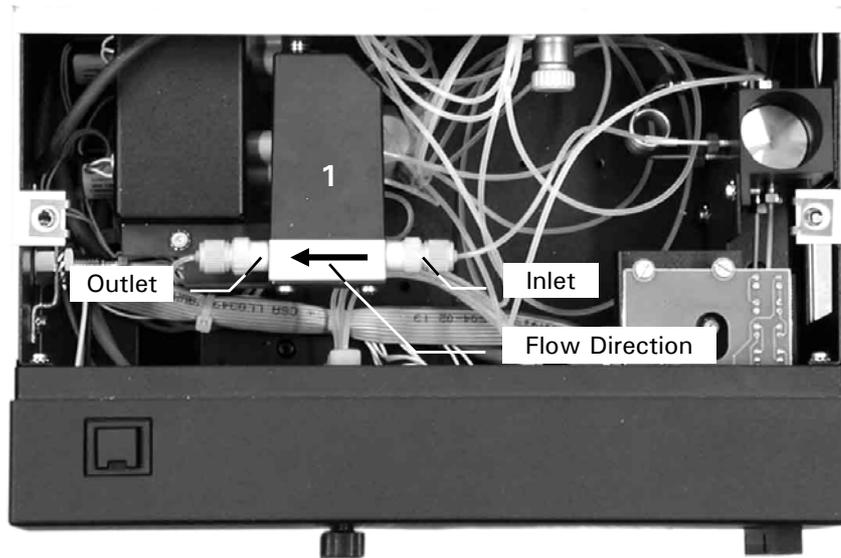

FIGURE A-14. The Fluidic Compartment with the Nano Flow Sensor
The flow sensor (factory installed option) is located on the top of the proportioning valves in the left part of the fluidic compartment (item 1, FIGURE A-14, top cover plate removed).